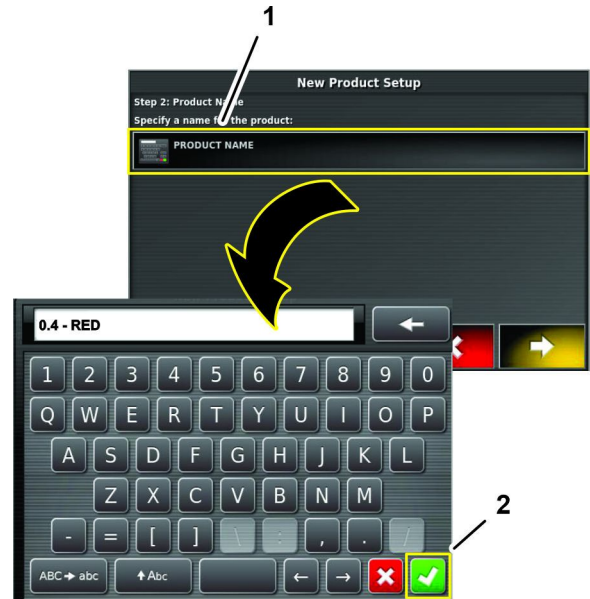

Figure 118
7. Press the PRODUCT NAME icon, enter the with the display on-screen keyboard, and press the confirm icon (Figure 118).